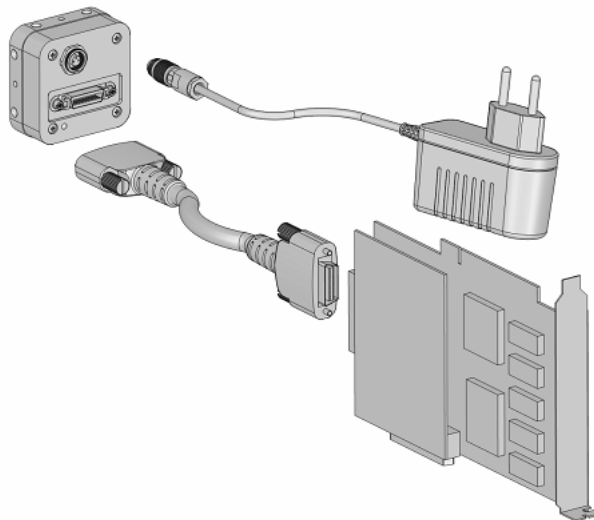

Figure 3.2: Camera with frame grabber, power supply and cable.
5. Connect the camera to the frame grabber with a suitable CameraLink® cable (see Fig. 3.2).
7. Connect the power supply to the camera (see Fig. 3.2).